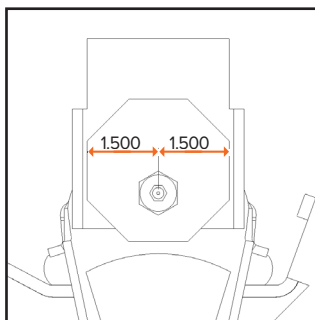
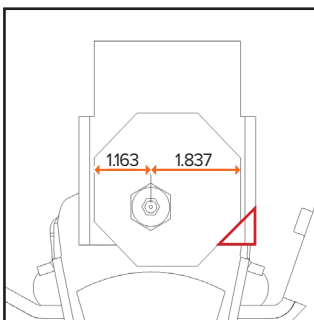

Figure 1 - Center Setting
Figure 2 - Intermediate Setting\*
**NOTE:** If the trailer is equipped with a Correct Track system, the **CRE3000** can only be installed using the center or intermediate positions of the dial (see Figures 1 and 2). When using the intermediate setting of the Correct Track dial, trim the corner of the hanger opposite the offset of the shoulder bolt on both the inside and outside of the hanger (the red area outlined in Figure 2). This must be done on the curbside as well as the roadside of the trailer.
\*Both the intermediate and extreme settings can occur on either side of center. In Figures 2 and 3, the settings are shown as offset to the left, but they can occur as offset to the right, as well.